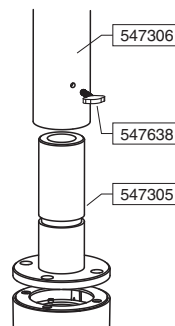

Figure 4.7 Yoke base
5. Insert the frame into yoke base and tighten thumb screws by hand in desired position. Refer to Figure 4.7.